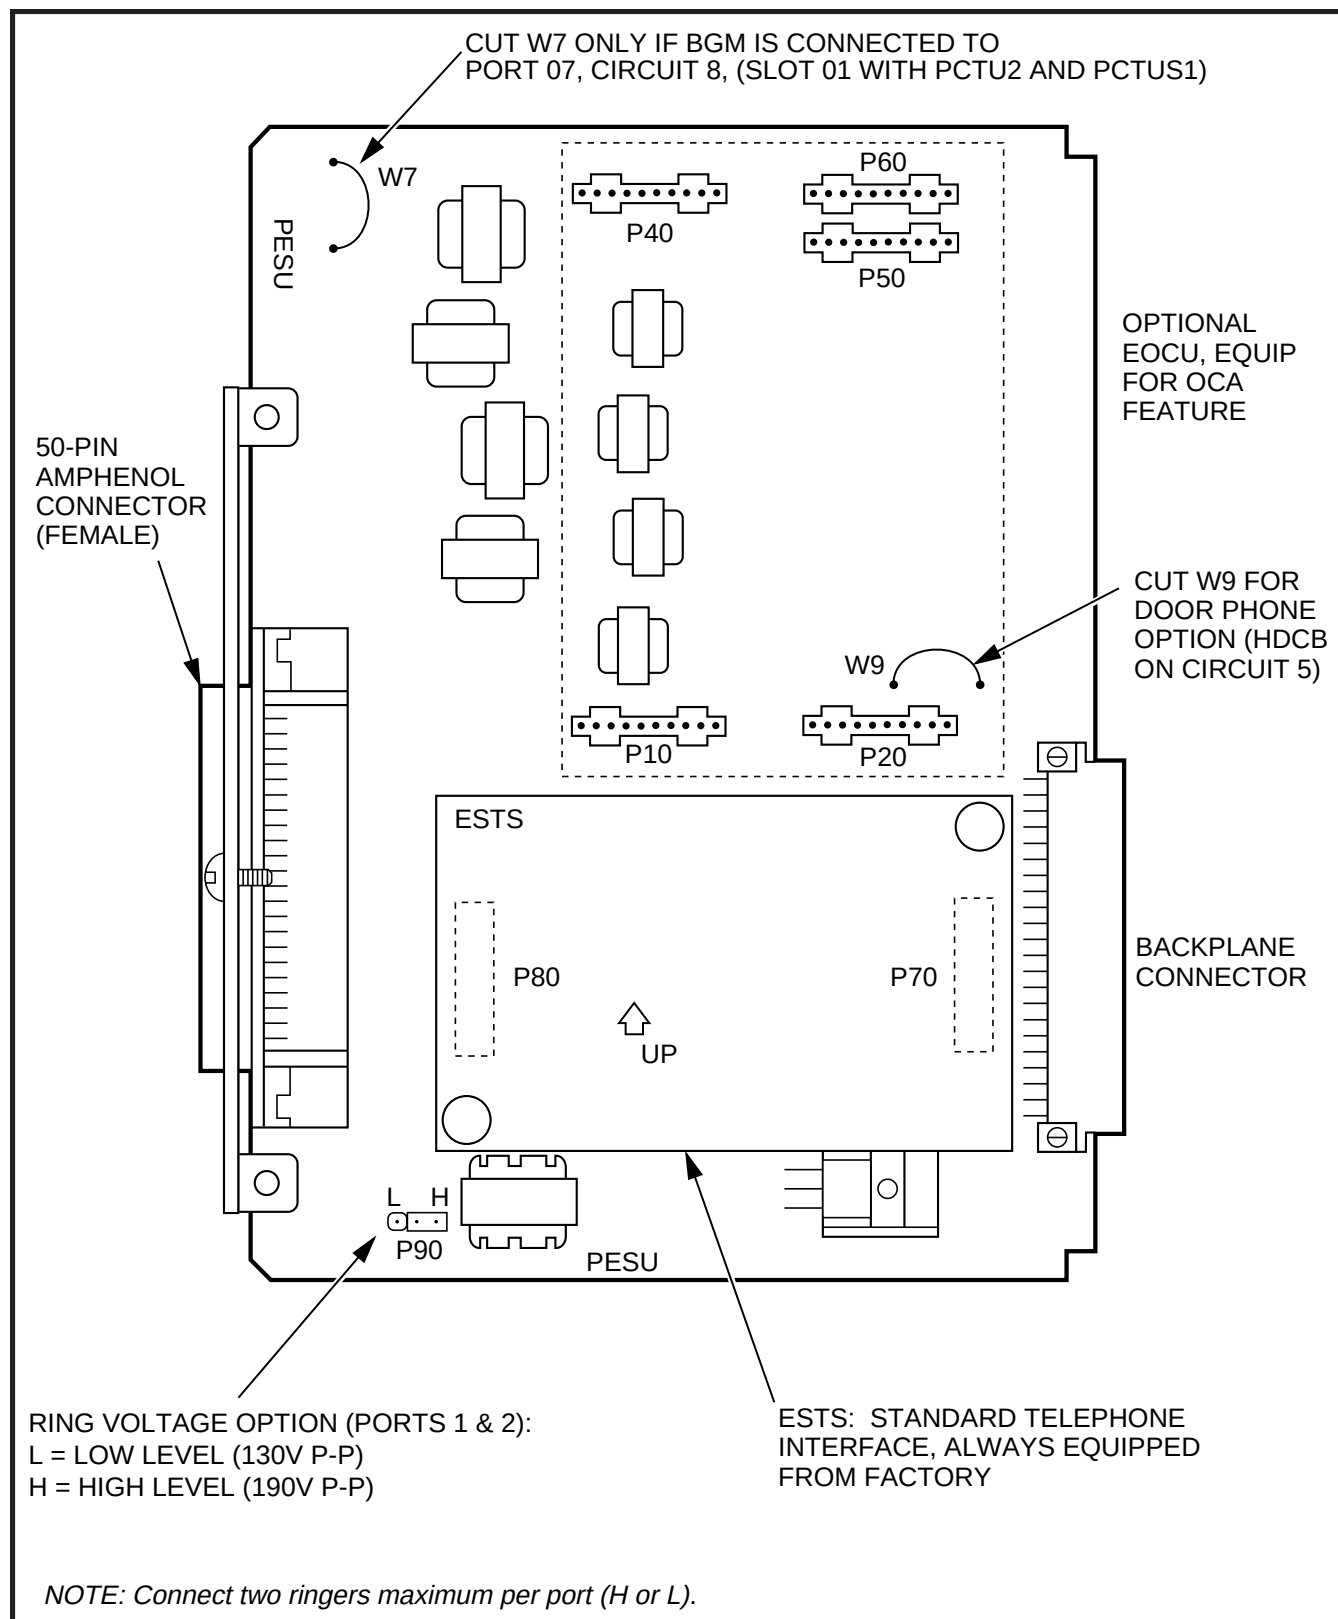

FIGURE 6-8
7.03 PESU controls and interface connectors are shown in Figure 6-8 and described in Table 6-D.
*PESU connectors **P10**, **P20**, **P40**, **P50**, and **P60** are positioned to allow installation of the EOCU only in the proper position (Figure 6-8).*
- 2) Ensure that the PESU subunit (ESTS) is securely attached to the PESU (refer to Figure 6-8).